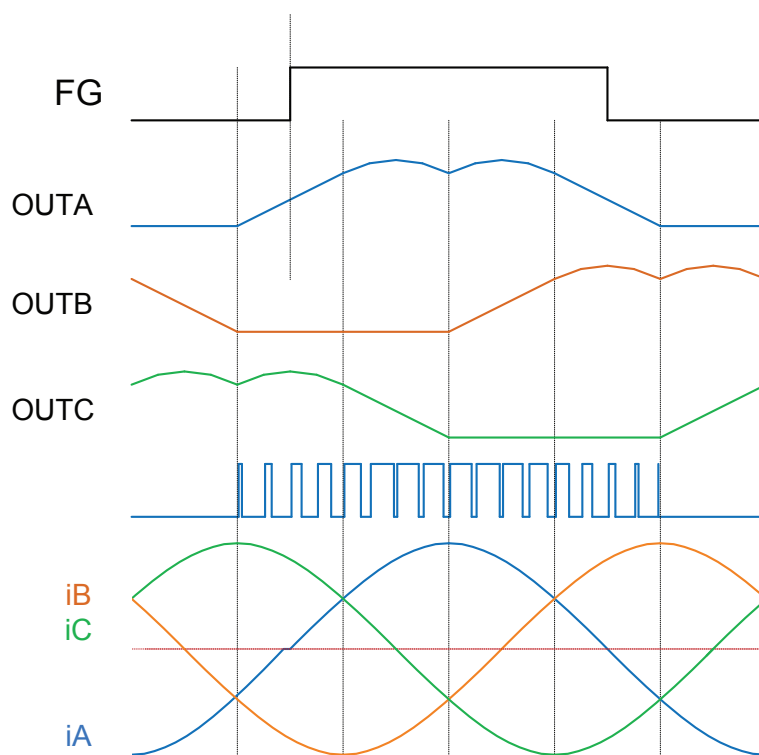

Figure 1: Sinusoidal PWM
This 9-bit "demand" is applied to a PWM generator block to create the modulation profile. The modulation profile is applied to the three motor outputs, with 120-degree phase relationship, to create the sinusoidal current waveform as shown in Figure 1.
**FG.** Open-drain output provides speed information to the system. For the default setting, FG changes state one period per electrical revolution of the motor (as shown in Figure 1).
| 1      | June 26, 2017     | Corrected typo in Figure 1 |